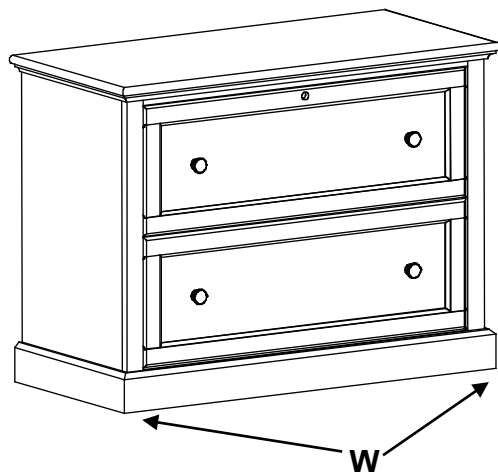

Fig. 5
5. Position the unit at your desired location. To level the unit, twist the Adjustable Glides (W) on the bottom two front corners. See Figure 5. Use a protective pad for the top surface.